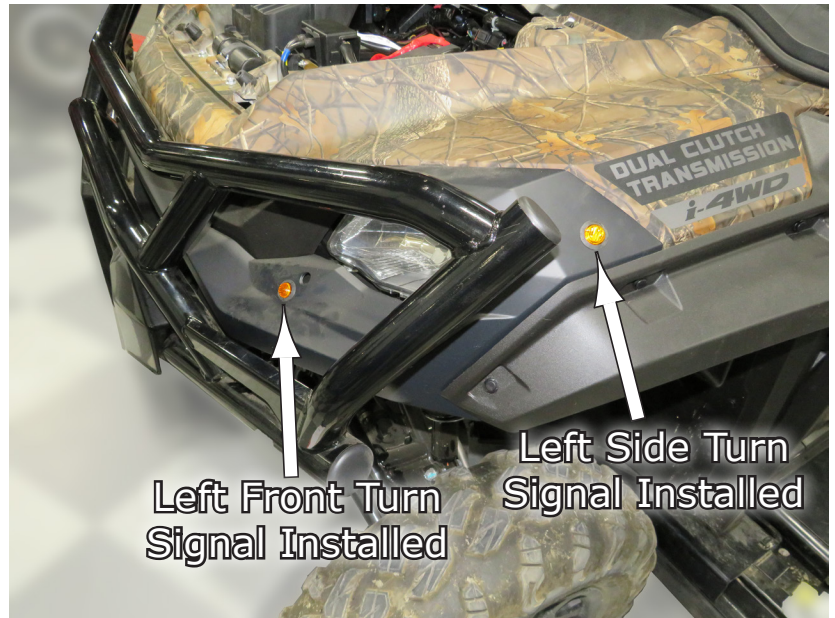

Fig.13
There will be Two Lights per side to install. Only the front one shown in Fig.12. Fig.13 shows both Front and Side Turn Signals installed.
14. Fig.13 shows where we chose to put our lights for both Front and Side viability. (Driver's Side shown)